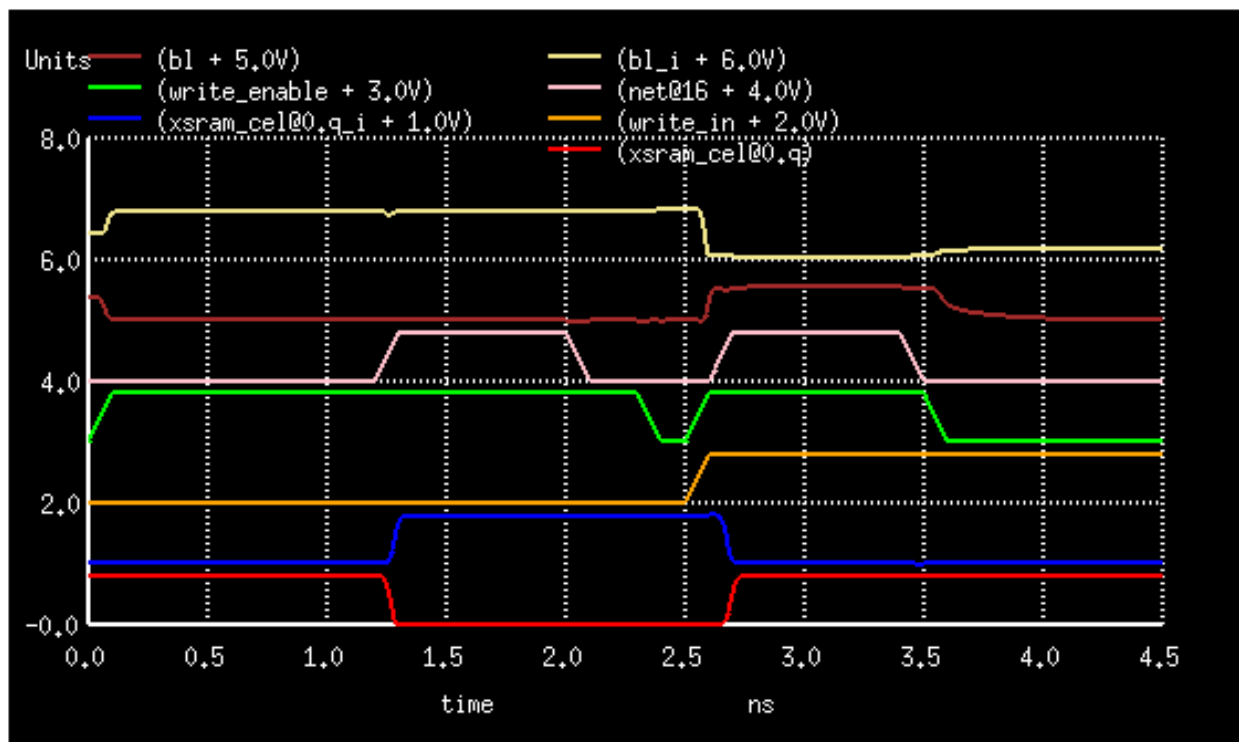

Figure 10: Writing 0, then writing 1
2. Writing a 1 to a cell with 0 (Figure 10). This uses the same process for writing a 1 as for writing a 0, but BL is driven high and BL' is driven low.